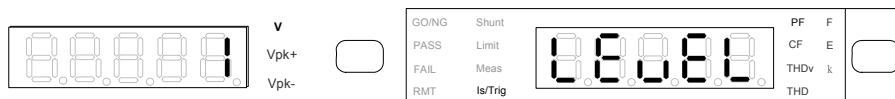

Figure 4-35 Setting LEVEL and Current
2. In the special measurement display a blinking pattern will appear. Use \uparrow , \downarrow to select Level and press **Enter/Trig** to save the setting and go to trigger Level (ampere) selection display as Figure 4-35 shows.